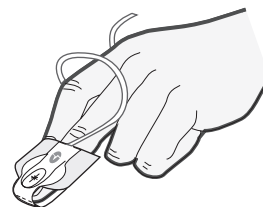

Figure 8
5. With the emitter positioned over the finger nail, secure the wings around the finger (see Figure 8).